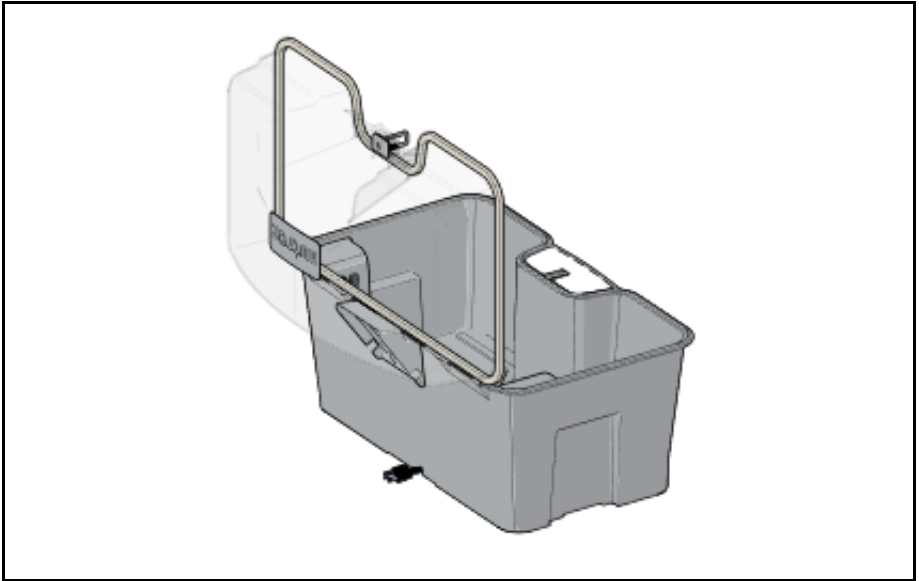

Figure 12 After installation, the lid bracket will hold the lid in the position shown.
Step 5: Firmly press the bracket onto the NUTROZ device to set the adhesive. To ensure that the bracket install was successful, slowly open the lid to the open position as shown in Figure 12. If the bracket install is successful, the bracket should sit firmly on the NUTROZ device.